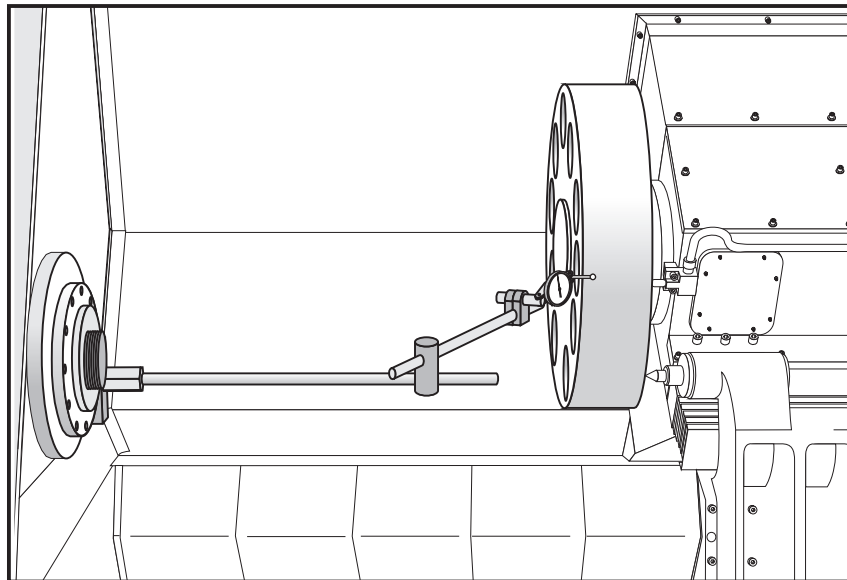

Fig. 1-1. Dial indicator in position to check X-axis.
1. Place a dial indicator and base on the spindle retaining ring with the tip of the indicator positioned on the outside diameter of the turret, as shown in Fig. 1-1.